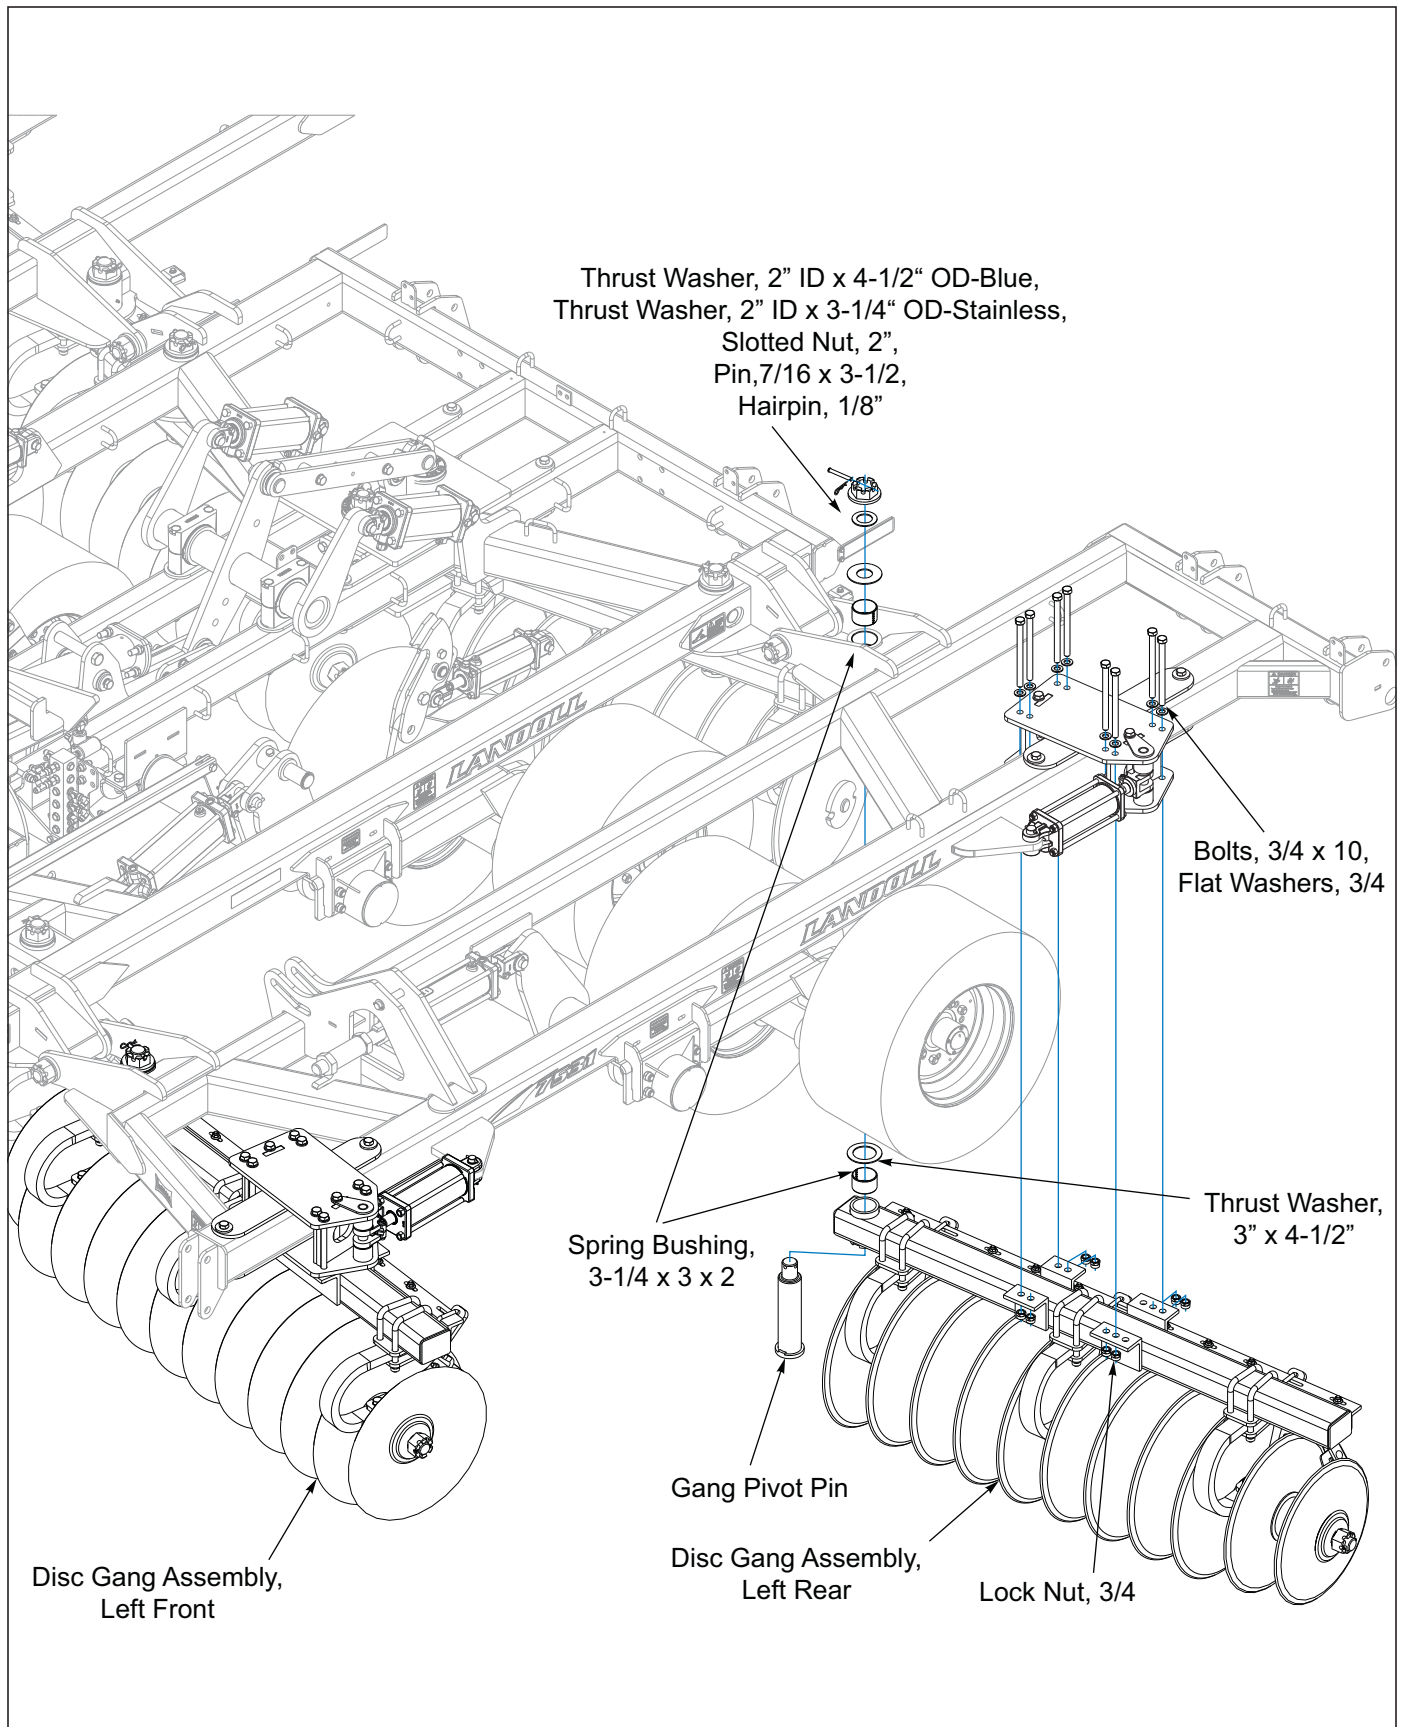
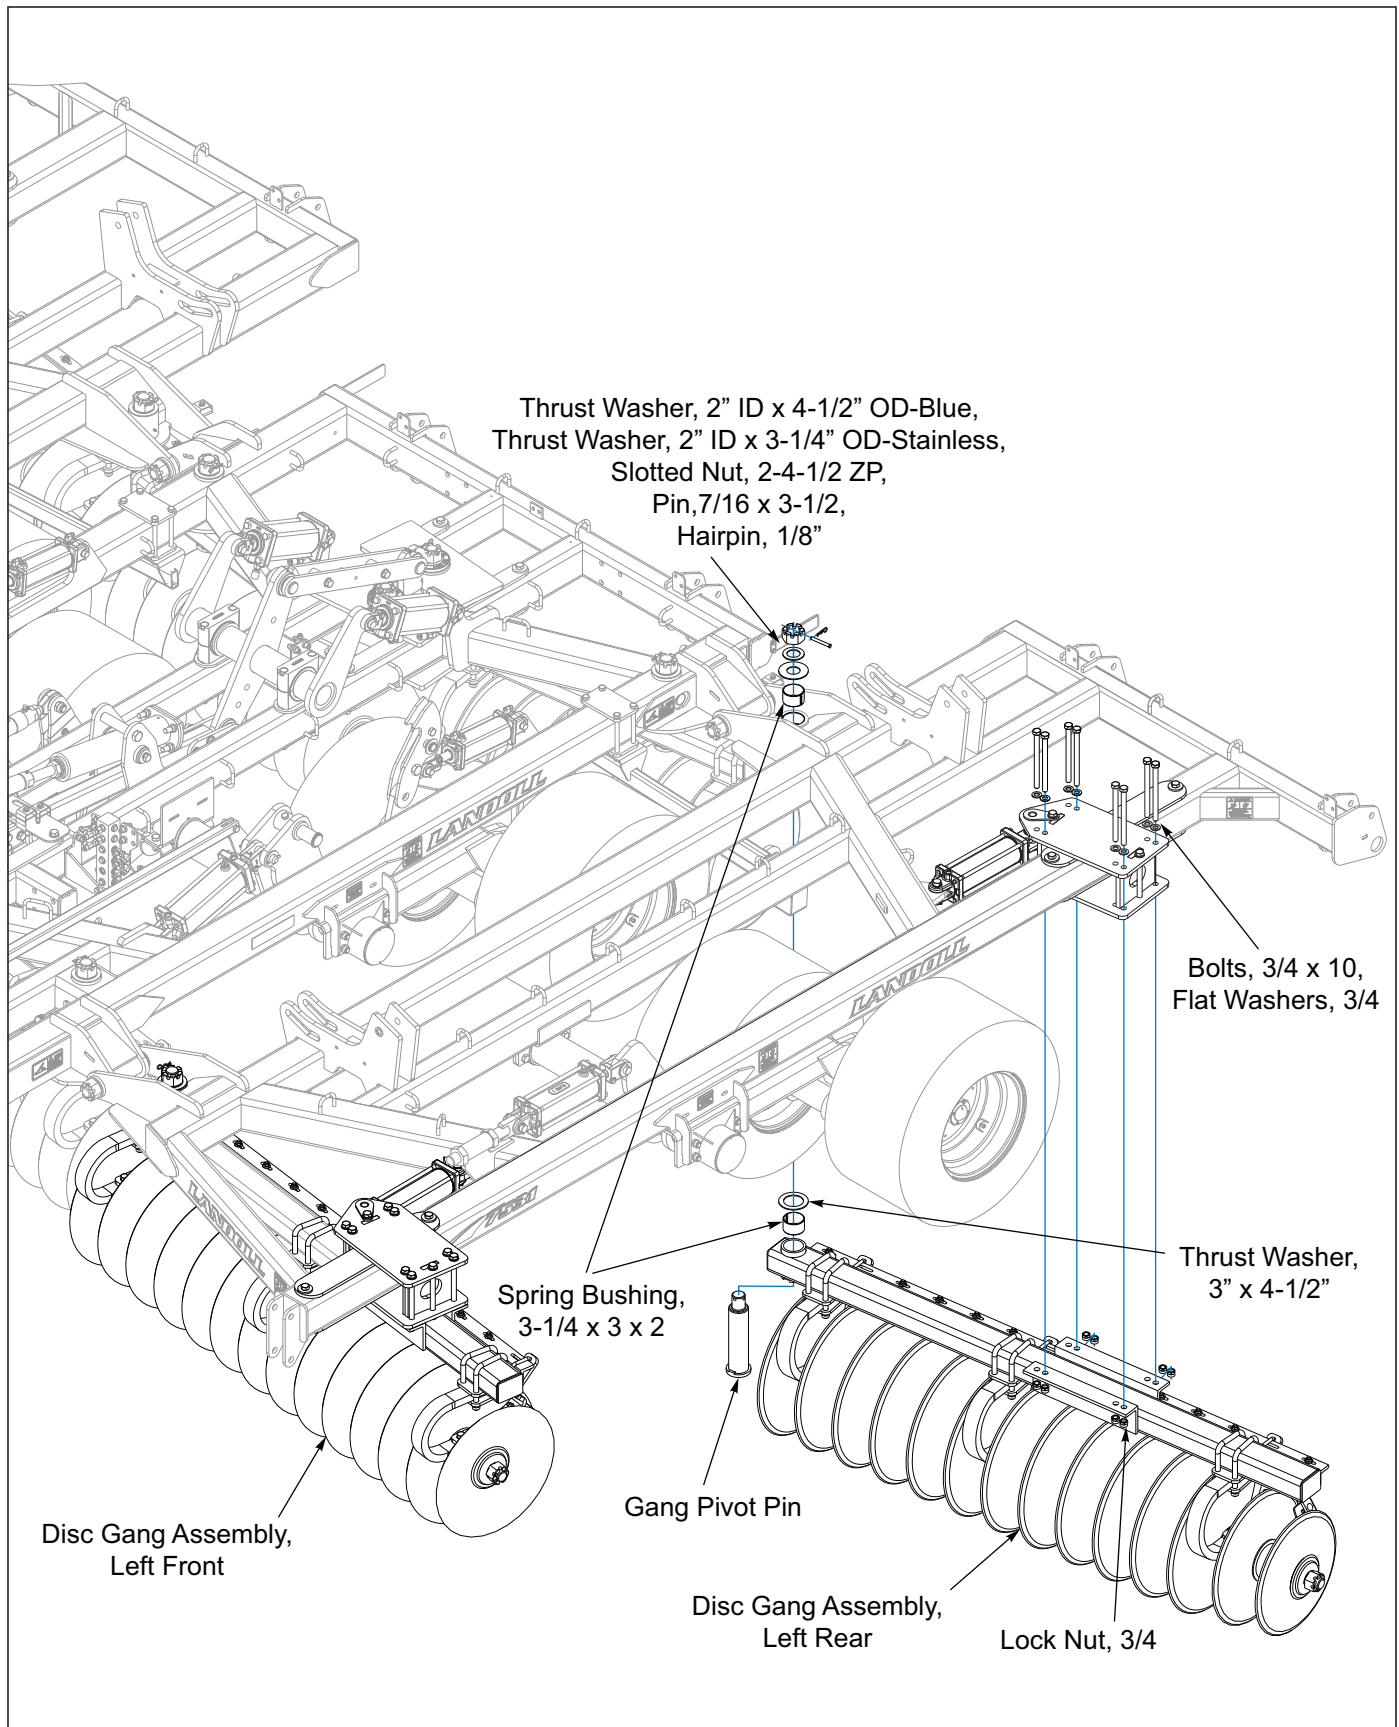

Figure 3-39: Wing Disc Gang Installation 7531-23'
Figure 3-41: Wing Disc Gang Installation 7531-26'-35'
1. Like the center frame gangs, install the front gangs first to keep the front end from coming up uncontrolled. Position the gang assemblies under the wing frame *See Figures 3-39, 7531-23', See Figure 3-41 and See Figure 3-41, 7531-26'-35'* and insert the gang pivot pin through gang pivot tube of gangbar, there are notches that will need to be aligned so the pin will not rotate in the gang bar. Install the 3" stainless steel thrust washer over the gang pivot pin, and pin will go on through the gang pivot mount welded to the inside of the wing frame hinges. Install the 2" diameter blue steel washer to the threaded end of the gang pivot pin along with the stainless thrust washer and gang pivot nut. If the top bushing in the wing frame pivot comes out a little while the pin is going through, just put the gang pivot nut on and hand tighten down to press it back into place.
2. Align the slide plates on the outer part of the wing up to the gang bar and install eight 3/4 x 10 bolts into the slide plates and through the angle iron on the gang bar, *See Figures 3-39, 7531-23', See Figures 3-41, 7531-26'-35'*, for placement of the bolts. Flat washers will be used on bolt head.